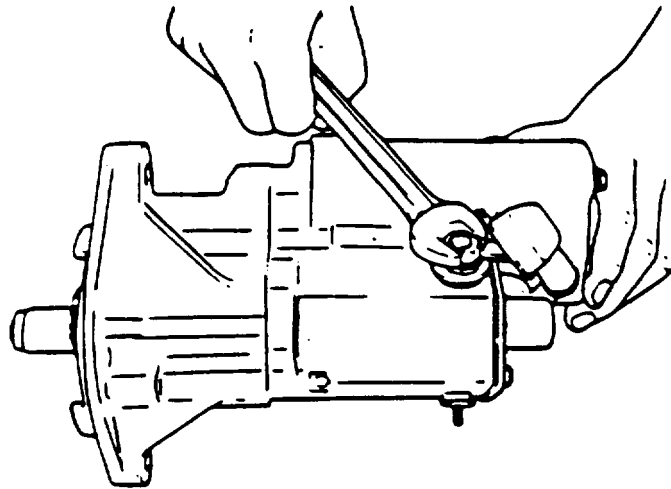

FIGURE 3-16. Disconnecting Lead Wire (Typical)
- b. Disconnect yoke assembly lead wire (6) at magnetic switch assembly (24), refer to FIGURE 3-16.